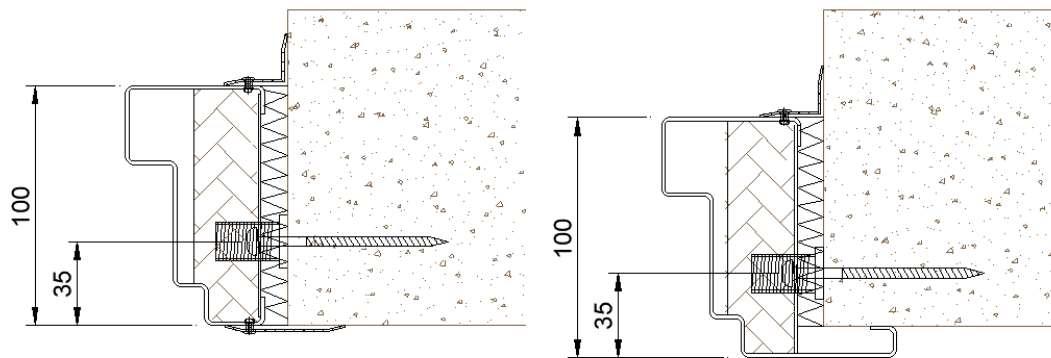

Figure 5 – Installation of the door into the structural opening SMU101/201
23) Fill the gap between the frame and the wall according to **Table 1** and the descriptions in Figures 5 and 6.